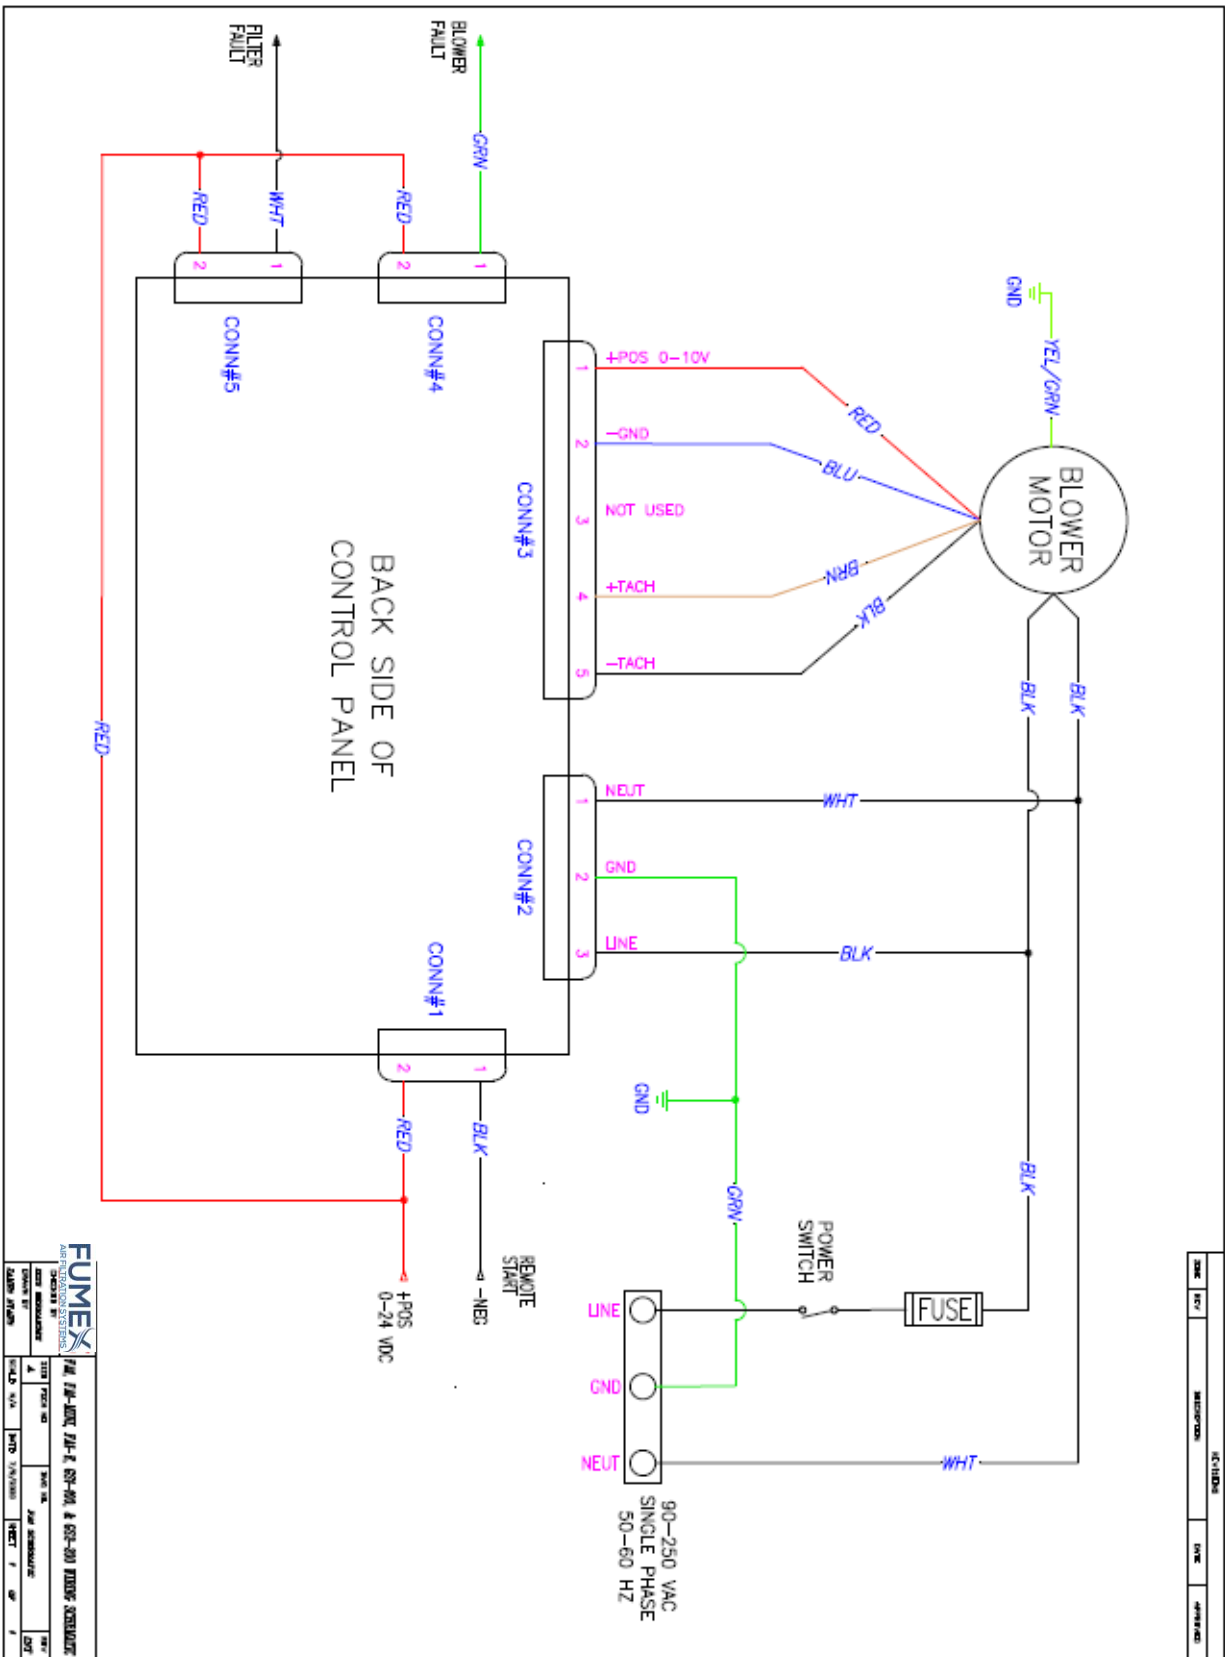

Figure 1
The FA1 can be supplied with an optional interface package providing remote start/stop and filter monitoring capabilities (Part # FA228). Please see instructions below for Relay Activation/De-Activation procedures and refer to the drawing in Figure 1 for remote connections.
7. Remove the flash drive and apply 0-24 VDC to the start relay according to the wiring diagram in Figure 1 to start the unit.